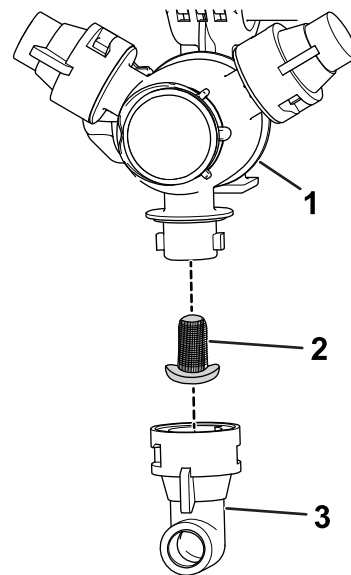

Figure 102
2. Remove the nozzle from the spray turret (Figure 102).
3. Remove the old nozzle filter (Figure 102).
4. Install the new nozzle filter (Figure 102).
5. Install the nozzle onto the spray turret (Figure 102).